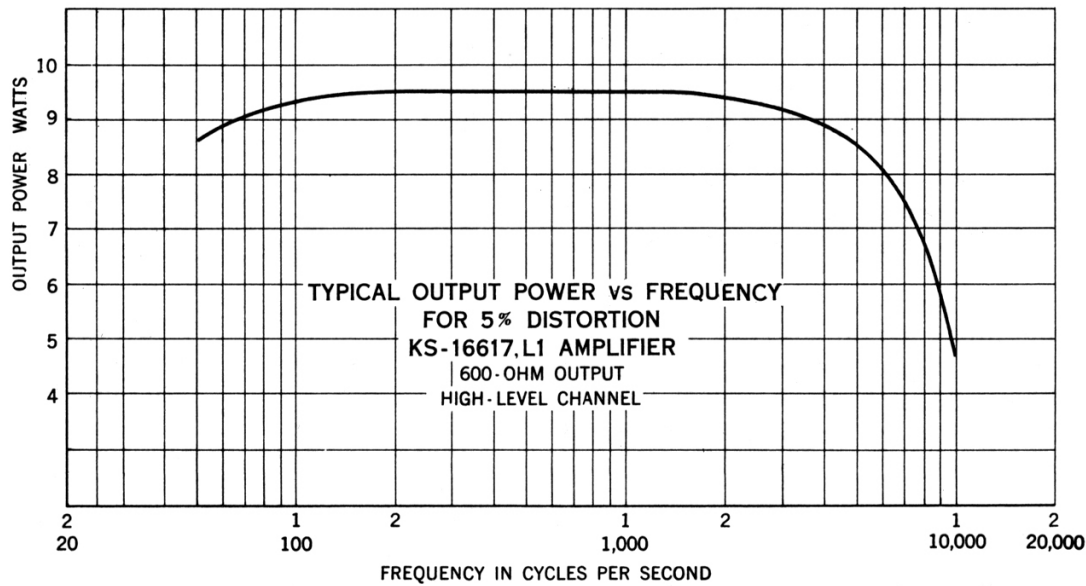

Fig. 4 – High-Level Channel Output — Power vs. Frequency
6.02 Fig. 4 shows the output power versus frequency for the high-level channel with 5% distortion.